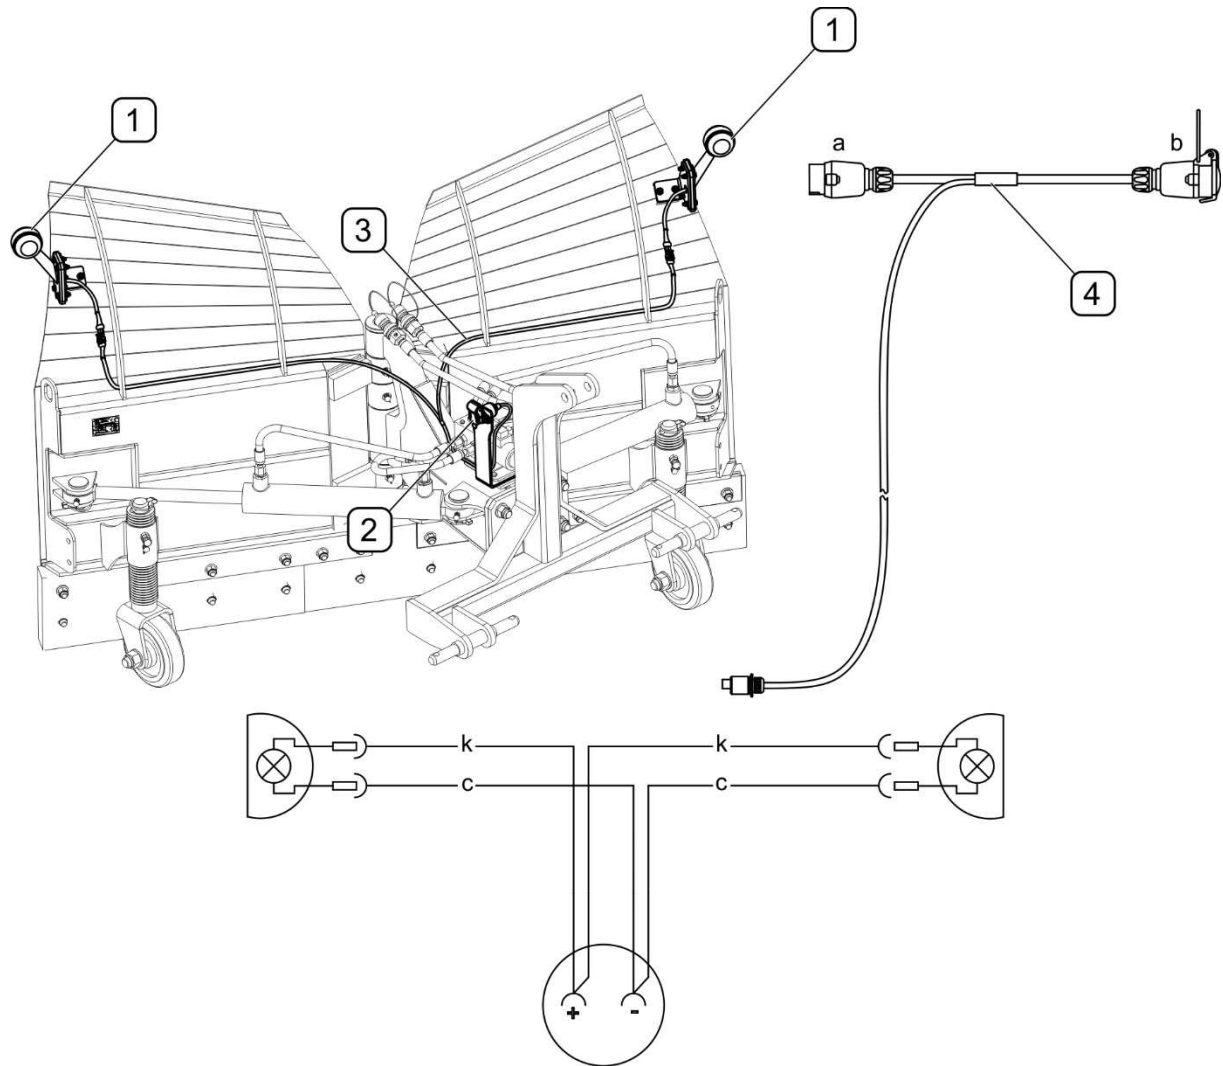

FIGURE 3.5 Design of electrical system of clearance lights
(1) - cigarette lighter socket; (2) – switch; (3) - solenoid valve; (4) - solenoid valve wiring harness; (5) - switch wiring harness; c - black colour; k - red colour
Electrical system of the snowplough's clearance lights (FIGURE 3.5) consists of two clearance lamps (1) and wiring harness (3) connected to 3-pin socket (2). The snowplough's electrical system is connected with the tractor's (carrying vehicle's) electrical system by means of power supply wiring harness (4), which is equipped with 7-pin plug (a) and adapter socket (b).